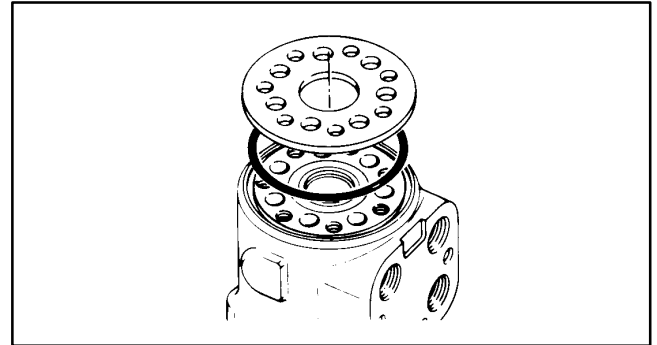

Figure 44
18. Install 3" diameter seal in housing, see Fig. 44.